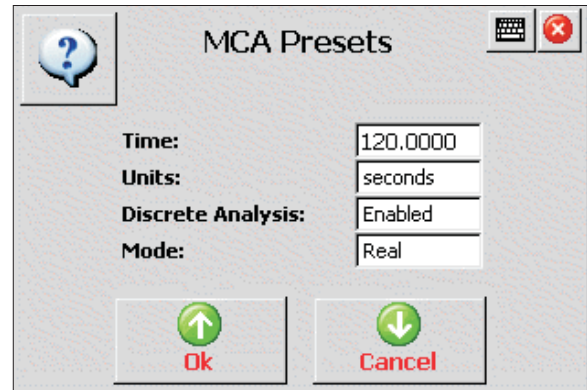

Figure 36 A Typical Parameters Dialog
- This will open the MCA Presets dialog (Figure 36).
To navigate a Parameters Dialog, such as MCA Presets (Figure 36):